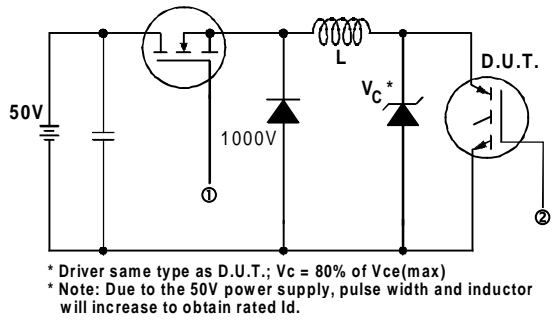

Fig. 13a - Clamped Inductive Load Test Circuit
- ② $V_{CC} = 80\%(V_{CES})$, $V_{GE} = 20V$, $R_G = 5.0\Omega$. (See fig. 13a)
- ③ Repetitive rating; pulse width limited by maximum junction temperature.
- ④ Pulse width $\leq 80\mu s$; duty factor $\leq 0.1\%$.
- ⑤ Pulse width $5.0\mu s$, single shot.
- ⑥ When mounted on 1" square PCB (FR-4 or G-10 Material). For recommended footprint and soldering techniques refer to application note #AN-994.
- ⑦ Refer to application note # 1023, "Surface Mounting of Larger Devices."